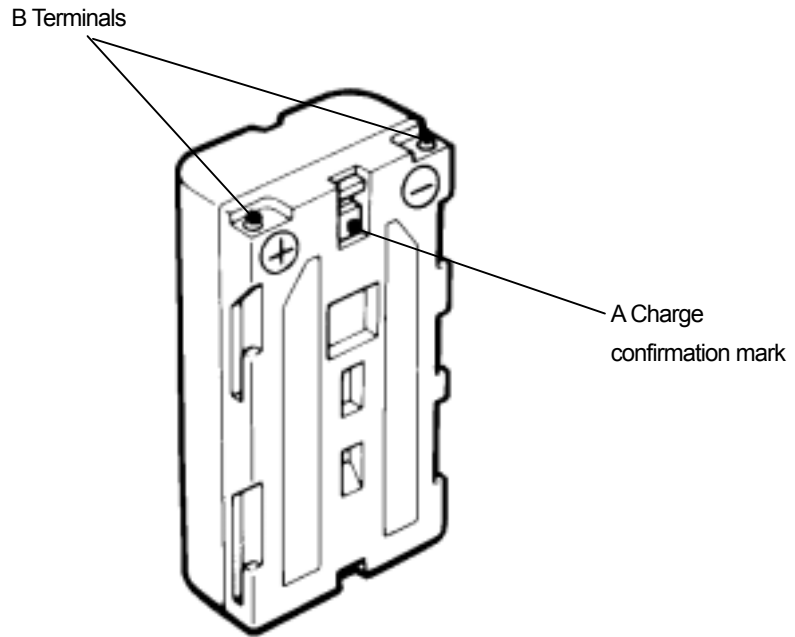

Figure 3-22 Battery Pack
Use the green charging check mark (see Fig. 3-22 A) to check if the battery pack has been used after being charged.
- When using the battery pack, be careful that any foreign matters like dust or sand do not get into the terminals (see Fig. 3-22 B). If foreign matters have got into the terminals, remove them completely with soft, pointed sticks, and repeat mounting/dismounting it on/from the battery charger several times until the terminals have good contact.